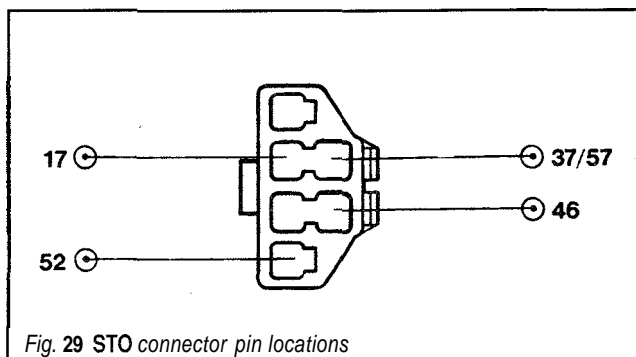

Fig. 29 STO connector pin locations
- ◆ See Figure 29
◆ See Figure 29